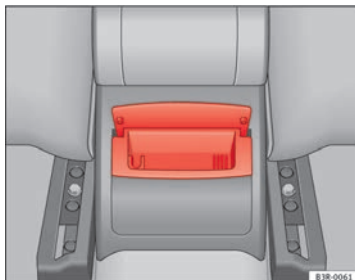

Fig. 121 Rear ashtray
- Take hold of the lid ⇒ Fig. 121 and lift out the ashtray.